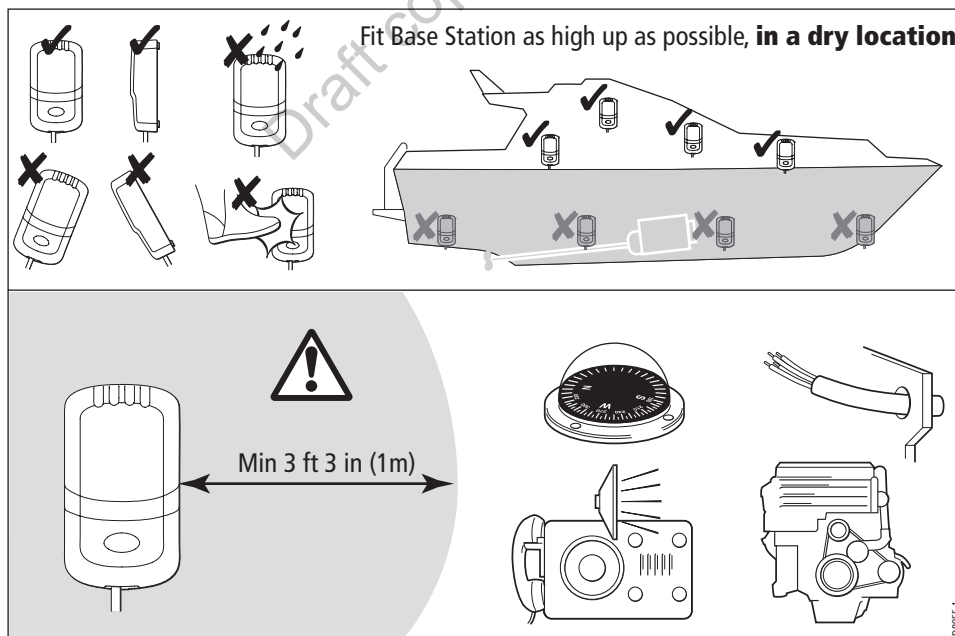
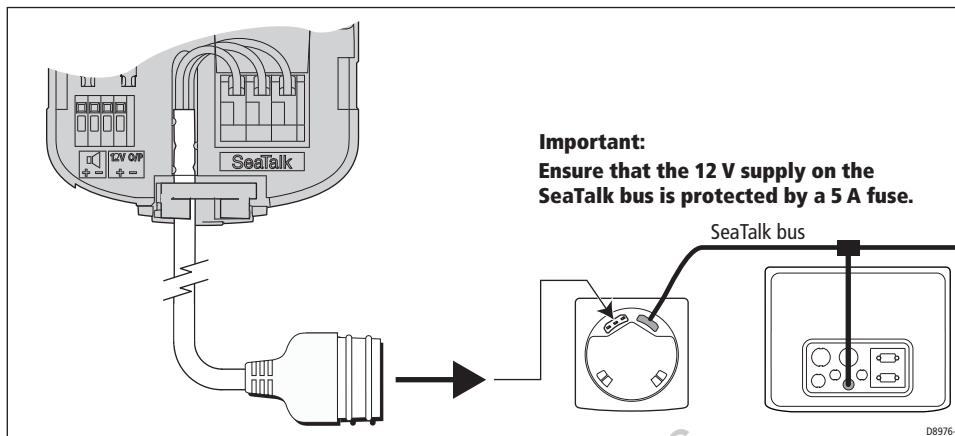

Figure 3 - Locating Base Station
Figure 5 - Base Station connection to SeaTalk
The SeaTalk cable provides power in and alarm signal out connections for the Base Station. If SeaTalk is available use this to connect the Base Station to SeaTalk, as shown in *Figure 5*. If SeaTalk is not available, use the SeaTalk cable to connect the Base Station to a 12 V dc power source.
The nominal LifeTag Base Station-to-Tag range is 30 feet (9 meters), so on boats where this separation is unlikely to be exceeded, the LifeTag system should operate satisfactorily with just one Base Station, provided it is positioned for optimum performance, as detailed in *Figure 3*.
1. Referring to *Figure 3*, place the Base Station at the location you intend installing it and temporarily connect it either to Seataalk as described in *Figure 5* or to a separate 12 V dc supply via a 5 A fuse, as described in *Figure 6*.
2. Temporarily connect each Base Station to a 12 V supply (as in *Figure 5* or *Figure 6*).